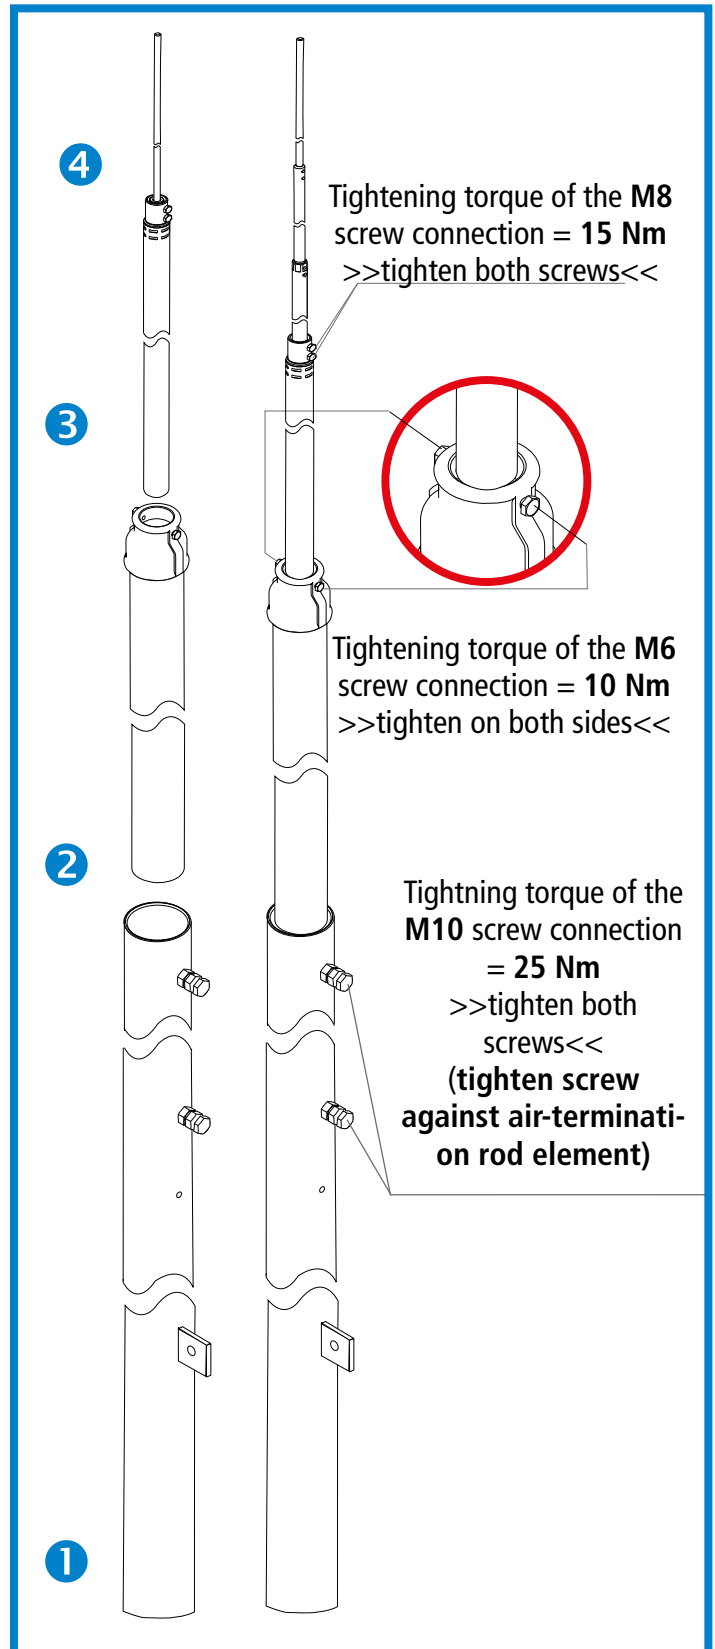

Fig. 10 Assembly
Insert the air-termination mast element ③ (Ø 40 mm); 1500/2000 mm long into the air-termination mast element ② and tighten it. Then tighten the air-termination rod by means of the two hexagon screws (at the air-termination mast element) (see Fig. 10).